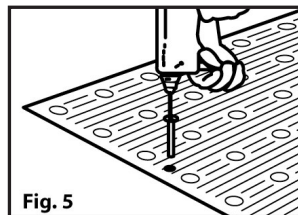

Fig. 5
6. Begin in the middle, then work your way towards the edges, inserting anchors and #14 stainless screws into the pre-formed countersunk fastener locations. Using a #3 square head bit, apply downward pressure with screw gun, press until the anchor goes through the panel and is flush with the surface of the concrete substrate. Tighten the screw until the screw is in full contact with the countersunk fastener surface of the panel. (Figure 5)